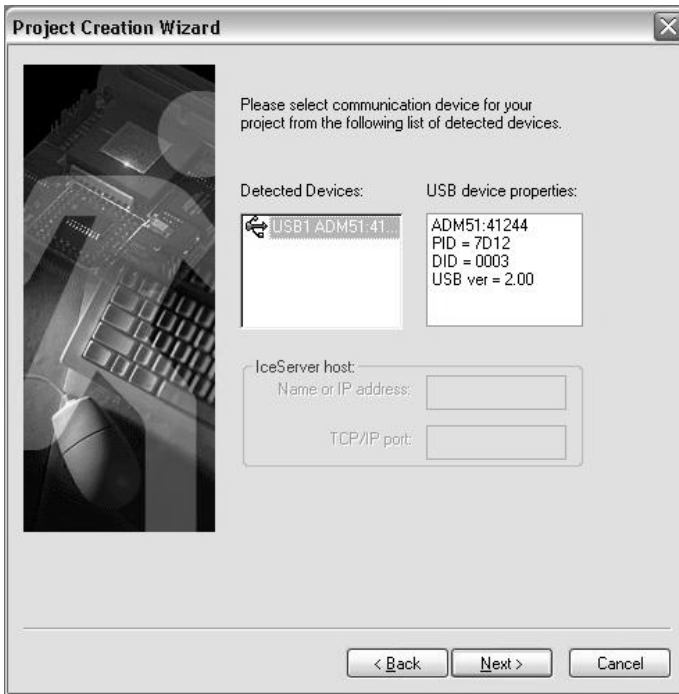

FIGURE 5 Choosing the communication device for a project.
8. Depending on your system, the wizard displays the available communication device or a list of such devices. Select the USB ADM51 device with the serial number of the ADM51 emulator used in your project (Figure 5). Click Next.